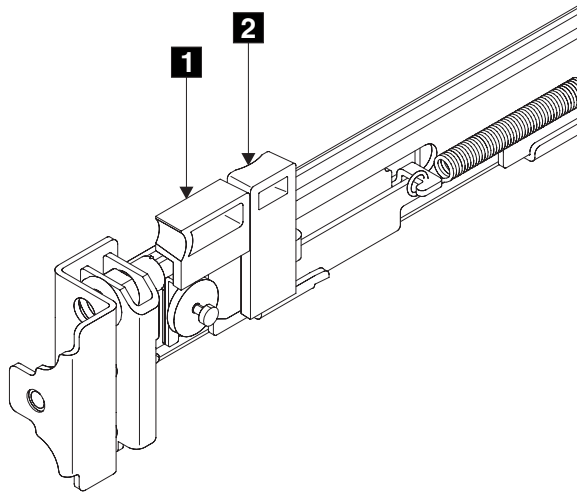

Figure 33. Retracting the latch lock carrier
2. Put your index finger against the side of the latch-lever, **1** in Figure 33, and put your thumb against the front of the latch-lock **2**.